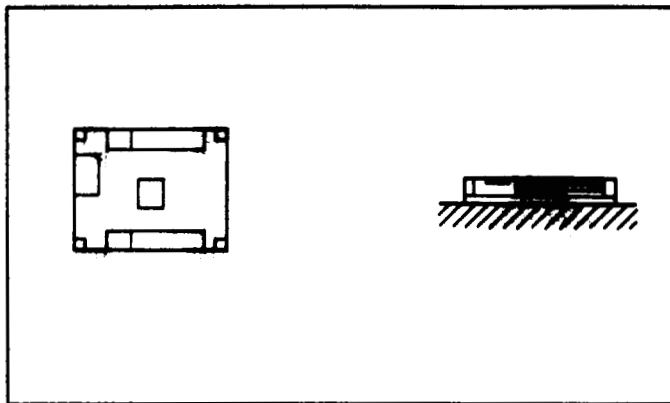
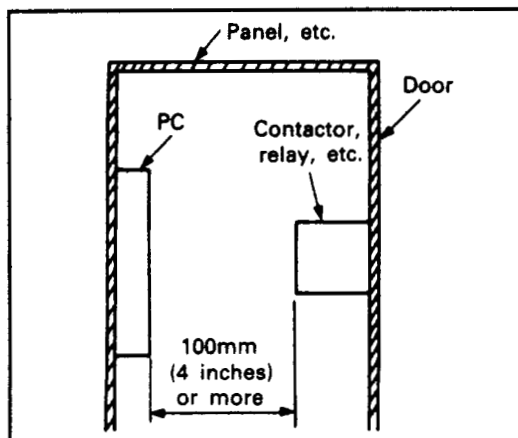

Fig. 3.4 Horizontal Mounting (Not allowed)
Fig. 3.5 Minimum Front Clearance with Panel Door Closed
- (b) The unit must not be installed on its side or horizontally as in Fig. 3.4.
- (e) Up to two compact remote I/O units may be fitted to each other. For full information, see item (2) below.
- (f) To protect the unit from heat and noise, all other equipment should be installed at least 100mm (4 inches) away from the PC front (Fig. 3.5) and at least 50mm (2 inches) away from the base unit sides.